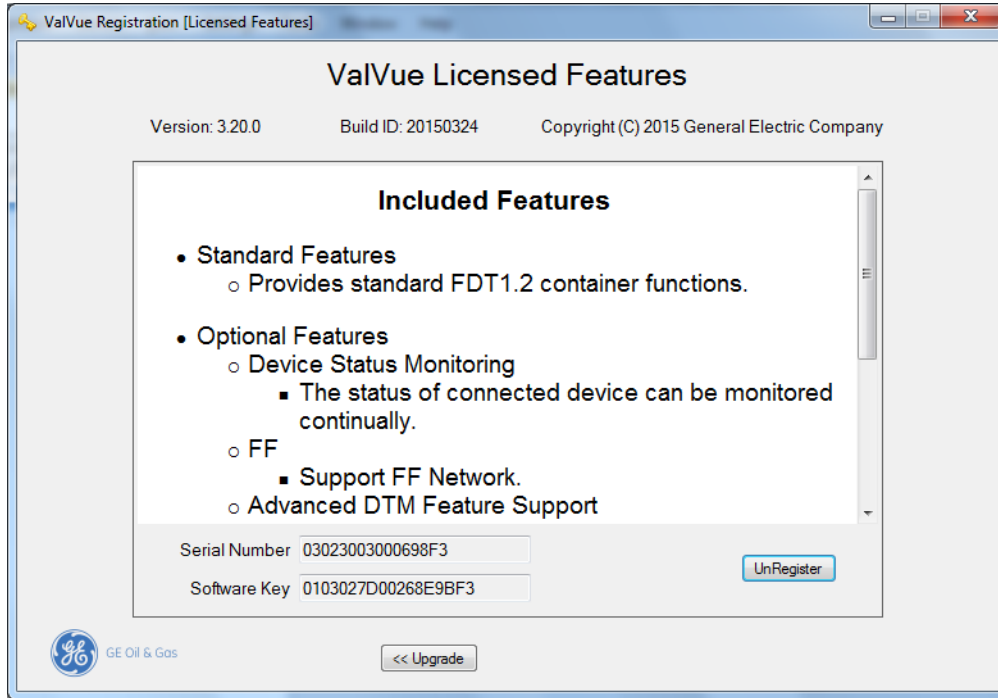

Figure 8 Included Features
1. Select **Tools > ValVue Licensing** and Figure 8 appears.